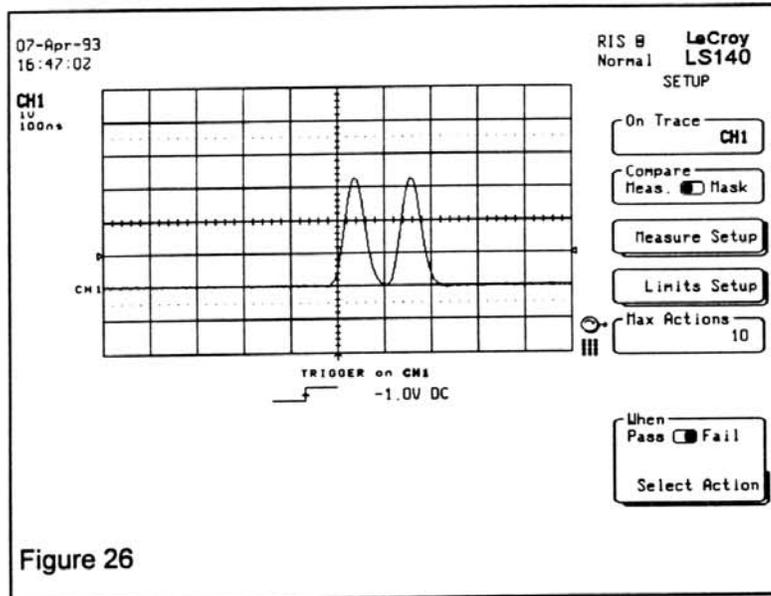
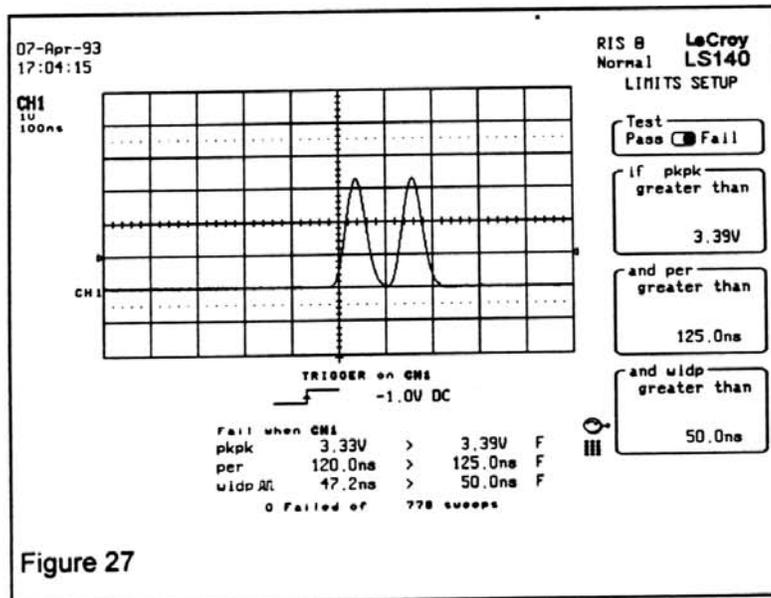

Figure 26
Figure 27
13. Press **MENU RETURN** twice and return to the **CURSOR/MEASURE** softkeys of figure 26.
To setup measurements for Pass/Fail operation press the Pass/Fail SETUP softkey and then use the "COMPARE Meas : Mask" softkey and select Measurements. The softkey setup menu of figure 26 will then be displayed.
The MEASURE SETUP softkey is used to select up to three measurements. The LIMITS SETUP softkey menu is shown in figure 27 and is used to establish the pass/fail criteria for the selected measurements. Reviewing figure 26 the softkey menu assists in establishing the testing logic as you work from the top to the bottom of the menu.